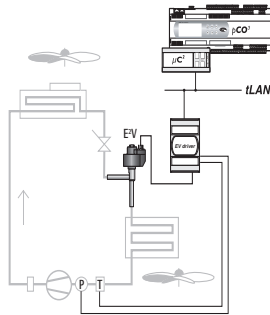

Fig. 1.1
1.2.1 TLAN connection with μ C2 or μ C2 SE or pCO (codes EVD000*40* and EVD000*43*) Fig. 1.1.